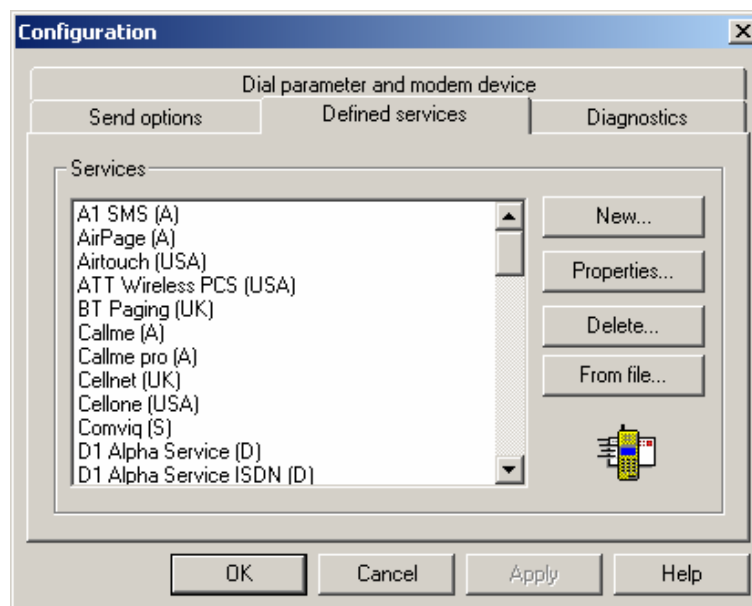

Figure A.7. TAP Configuration: Defined Services Tab
- On the **Defined Services** tab, shown in **Figure A.7**, check for your pager service provider. Verify that the service modem phone number is correct by selecting the service provider and clicking the **Properties** button. This opens the **Services** dialog box. The service provider number is located on the **Additional** tab in the **Number for dial-up terminal** field.
1. Launch the TAP configuration (as described above), and select the **Defined Services** tab, shown in Figure A.7.